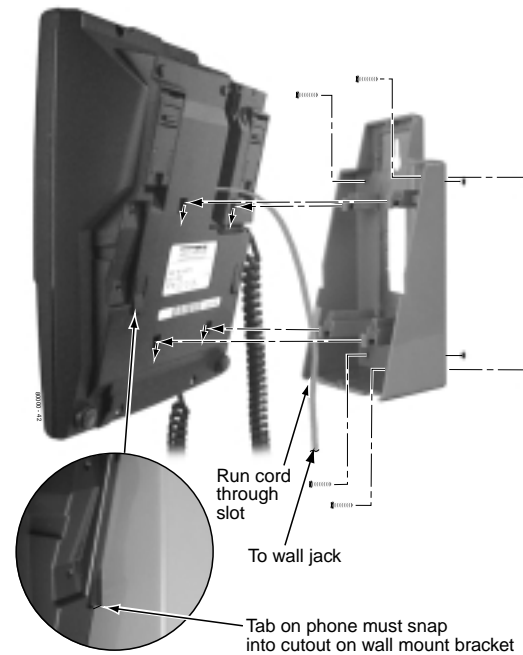

Figure 4-11 INSTALLING THE WALL MOUNT BRACKET
### Wall-Mounting a Key Telephone (Figures 4-11 through 4-13)
- **To mount the telephone on the wall** (Figure 4-11):